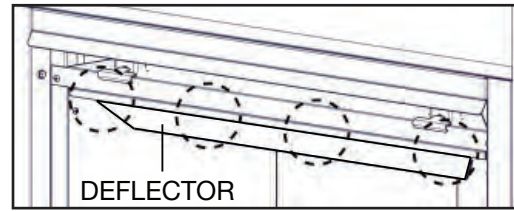

Fig. 1
- C. To ease assembly, remove the four hex head screws securing the deflector from inside the top front of the firebox (Fig. 1). Set deflector aside.